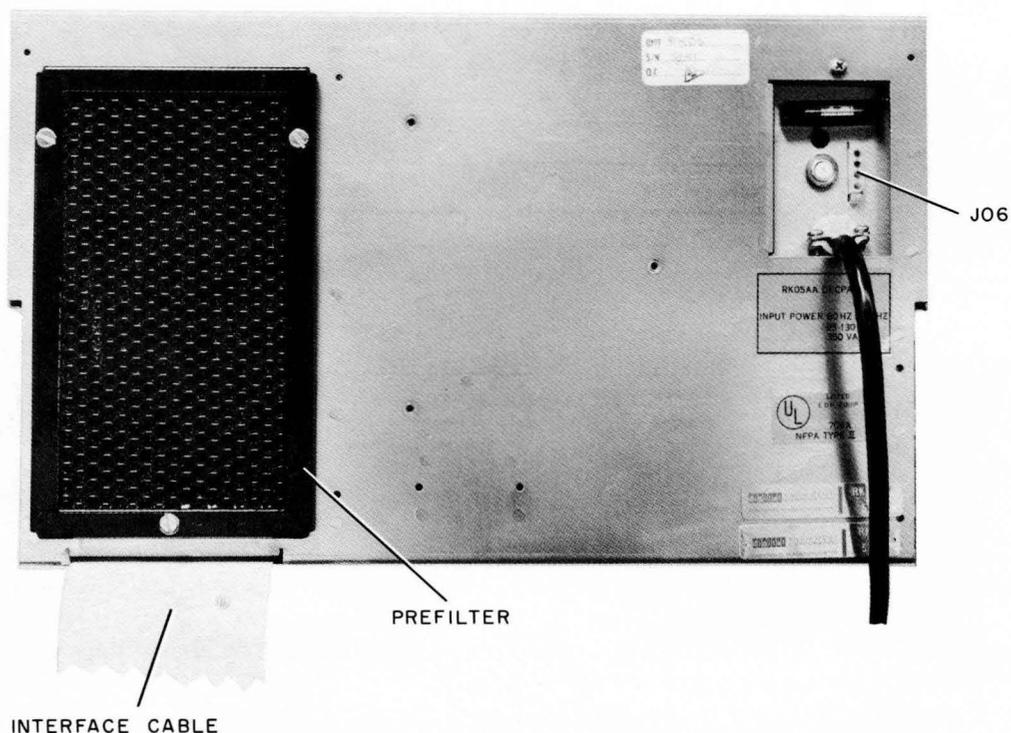

Figure 2-3 RK11C or RK11D Interface Cable Installation
7. When RK05 drives are “daisy-chained” with RK03 drives in a multi-drive installation, it is recommended that the RK05s be arranged consecutively at the controller end of the bus. This is done to avoid interruption of the AC LOW and DC LOW interface lines which are not carried by the RK03s. If this arrangement is not possible, any RK05s that are separated on the bus by RK03s, require a separate cable connection between J06 (Figure 2-3) of the RK05s.
8. When RK05 drives are "daisy-chained" with RK03 drives in a multi-drive installation, it is recommended that the RK05s be arranged consecutively at the controller end of the bus. This is done to avoid interruption of the AC LOW and DC LOW interface lines which are not carried by the RK03s. If this arrangement is not possible, any RK05s that are separated on the bus by RK03s require a separate cable connection between J06 (Figure 2-3) of the RK05s.
- a. Fold the interface cables and route them through the slot just below the prefilter at the rear of the drive cabinet (Figure 2-3).